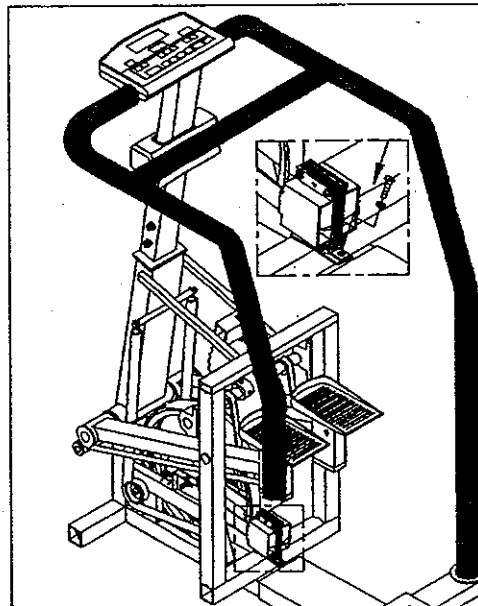

Fig. 19
6. Place the electromagnet unit into position, tighten with flat washer and nut (see Fig. 19).